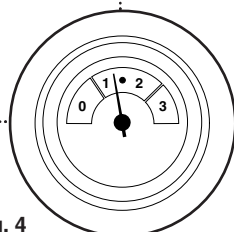

Fig. 4
2. The normal operating pressure is the range between 1 and 2.5 (Fig. 4).